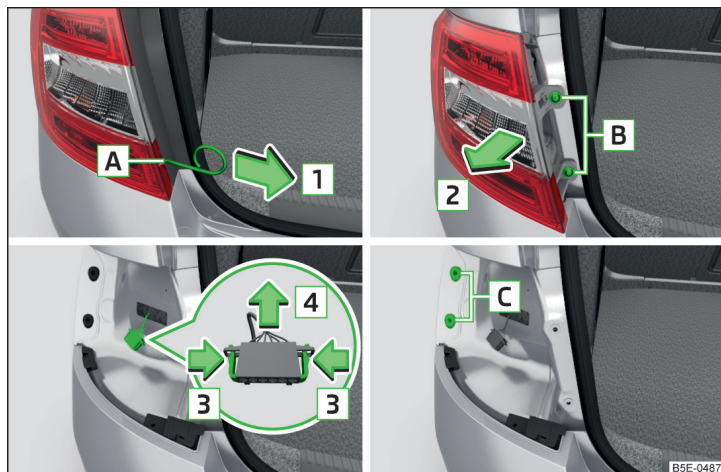
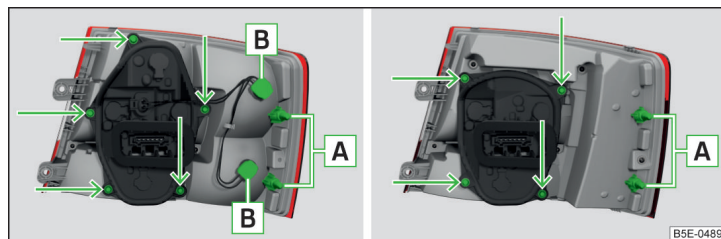

Fig. 226 Remove light / pull out connector
Fig. 227 Outer part of the light: Basic light/light with LED diodes
- Insert into opening **A** ¹⁾ » Fig. 226 the clamps for removing the full wheel covers » page 208, Vehicle tool kit.
- Insert the lamp with the pin **A** » Fig. 227 on page 231 into the recesses **C** » Fig. 226 in the body.
- Turn the bulb holder **B** » Fig. 227 in an **anti-clockwise** direction and remove it from the lamp housing.
- Unscrew the lamp holder » Fig. 227 with the screwdriver from the car tool kit, and remove the lamp holder from the light assembly.